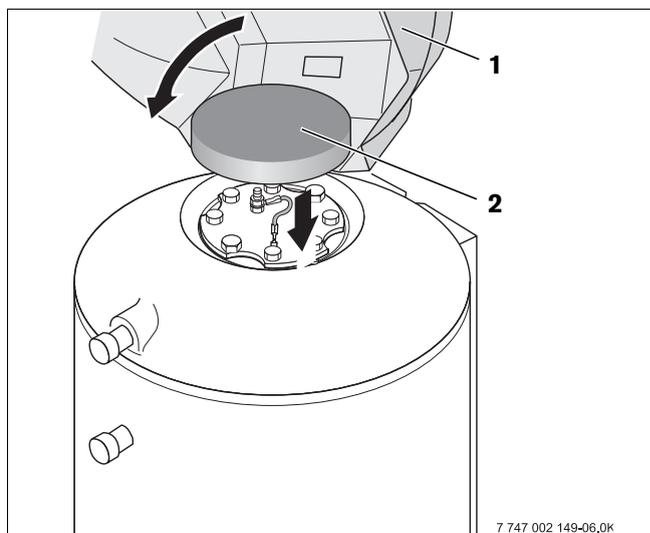

Fig. 18 Fitting the casing
- Insert the insulating element (Fig. 18, **Item 2**) on top of the access cover.
- Place casing lid (Fig. 18, **Item 1**) onto the DHW tank and screw it down with four screws on the sides.